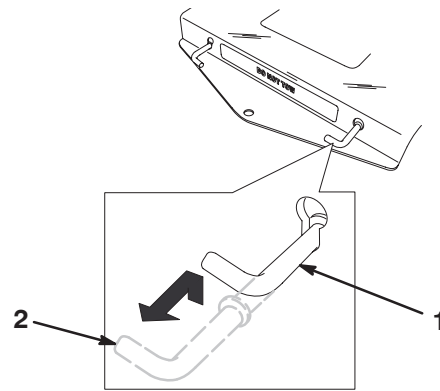

Figure 15
Pull each bypass lever up and pull them completely out. Push the levers down (Fig. 15).
3. Pull the two bypass levers up and push them until the washer on the rod passes through the slot. Push the levers down to lock them in place (Fig. 15).